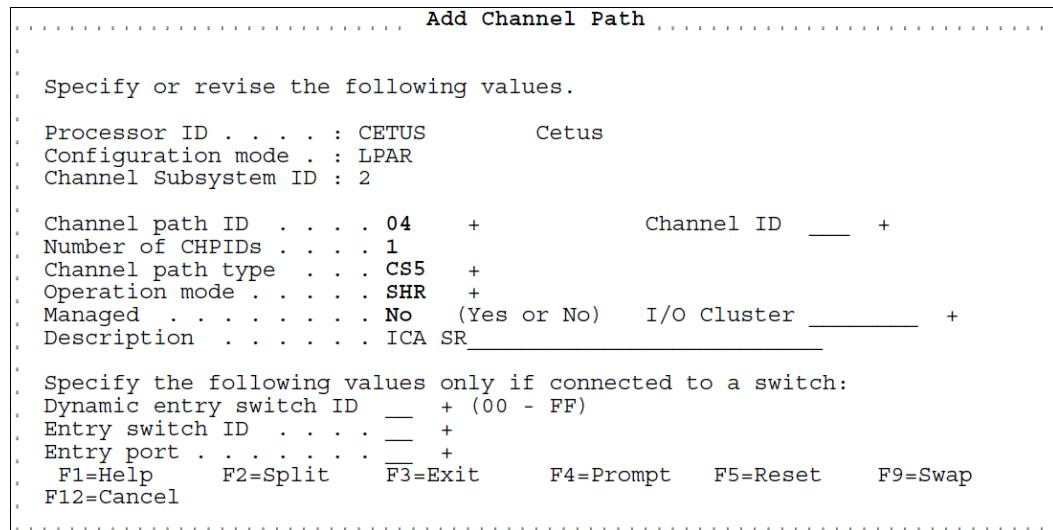

Figure 9-15 Adding CHPID CS5 on z14
4. In the Add Channel Path panel (Figure 9-15), add for instance: CHPID 04, type CS5, mode SHR. Then press **Enter**.